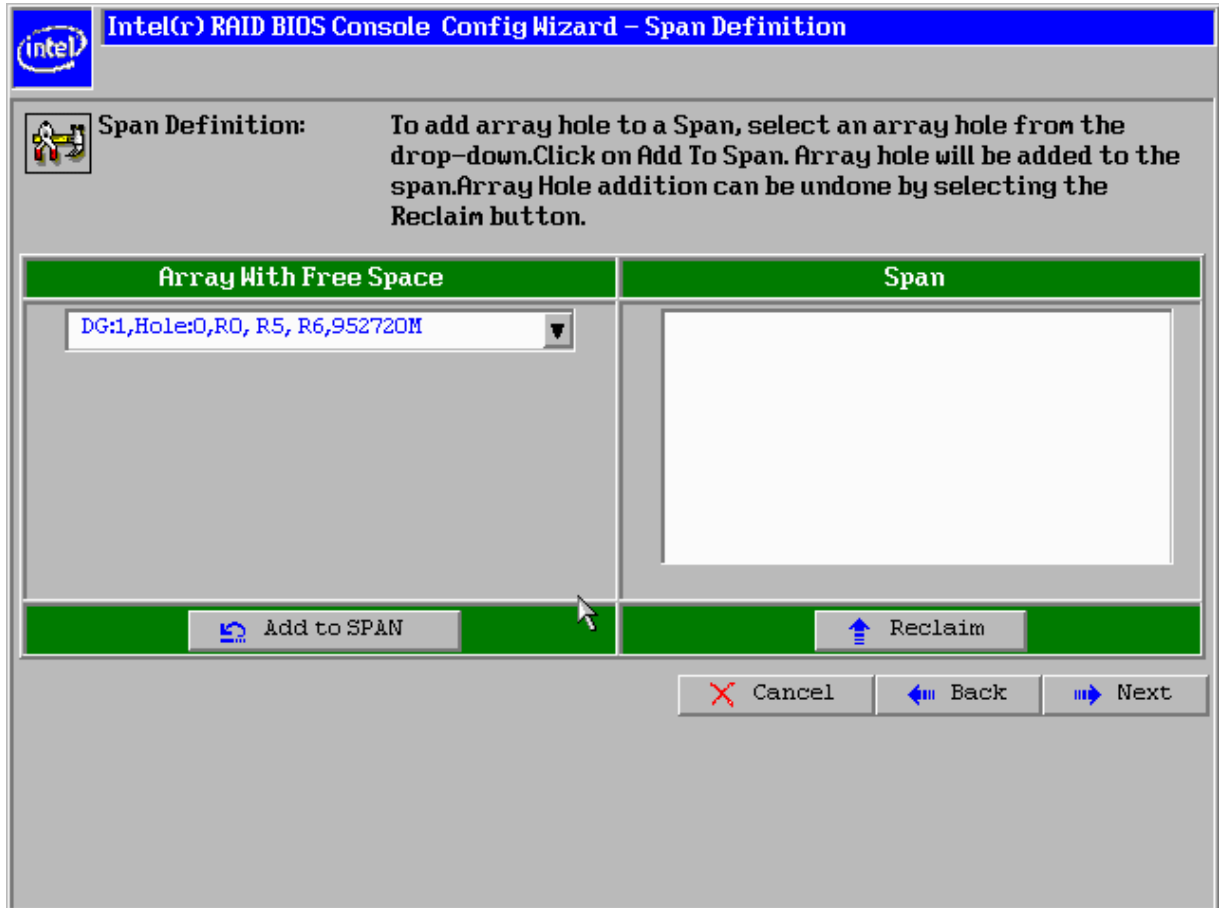

Figure 24. Span Definition Screen – Adding an Array Hole
19. On the Span Definition screen (see Figure 24), select **DG:1,Hole:0,R0,R5,R6,952720M** and click **Add to SPAN**.